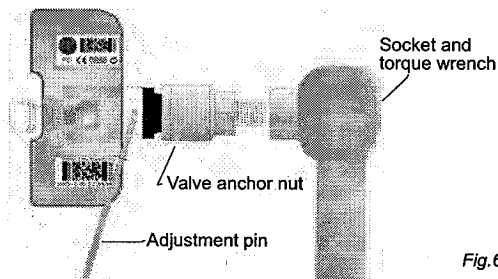

Fig.6
3. Use the 11 mm socket and torque wrench to tighten the valve anchor nut to 35.4 lbf.in (+/- .44) or 4 NM (+/- .05). Use the valve adjustment pin to ensure the valve stem does not turn while tightening. (See Fig.6)